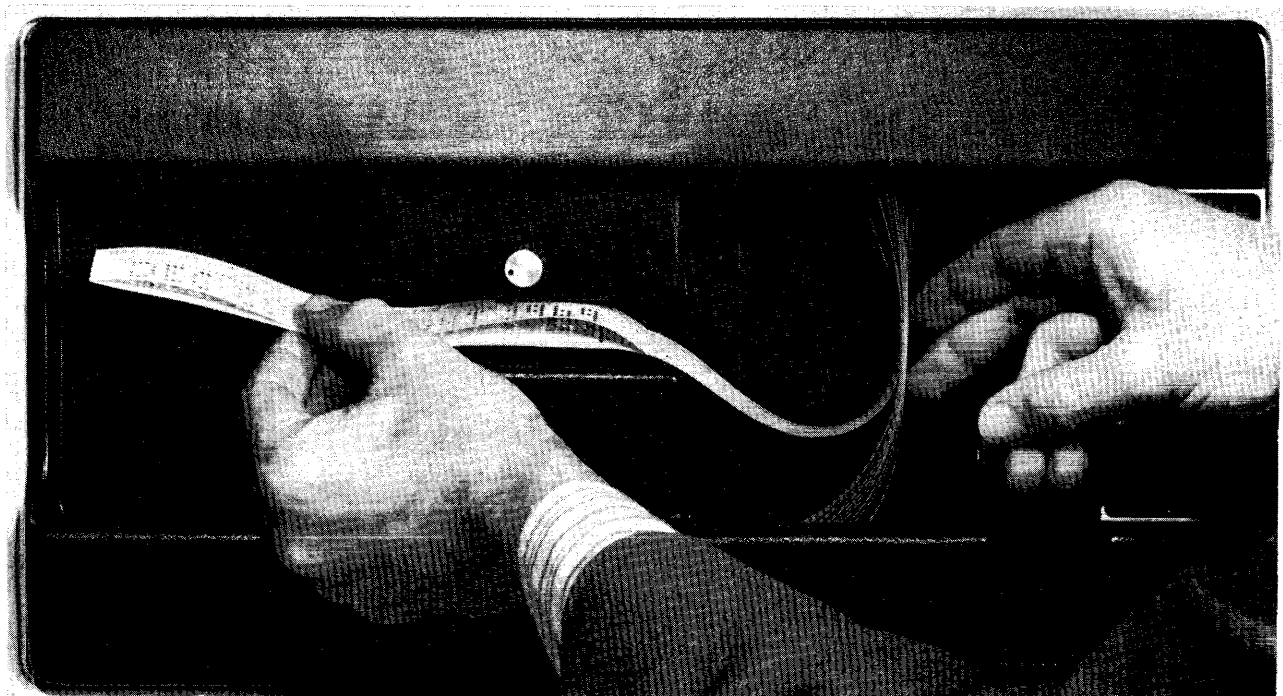

Figure 4-5b
7. Bend the upper end of the packet toward the read station and thrust it into the upper feed pocket (Figure 4-5b). The packet will be supported in the feed position.